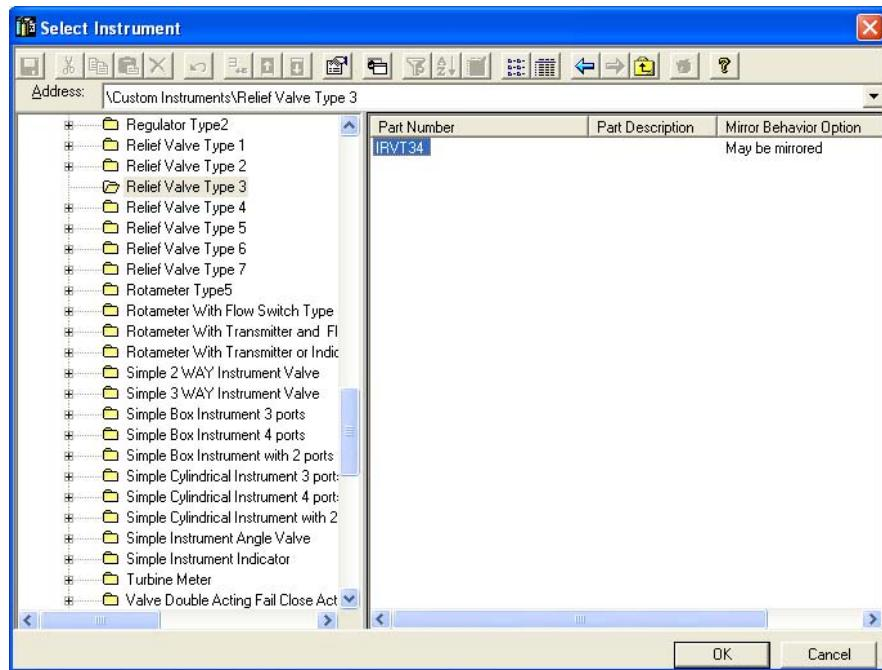

Figure 18: Select Instrument Dialog Box
3. The **Select Instrument** dialog box displays the instrument items from the catalog. Expand **Custom Instrument>Relief Valve Type 3** and select the part **IRVT 34** as shown in Figure 18. Then, click **OK**.